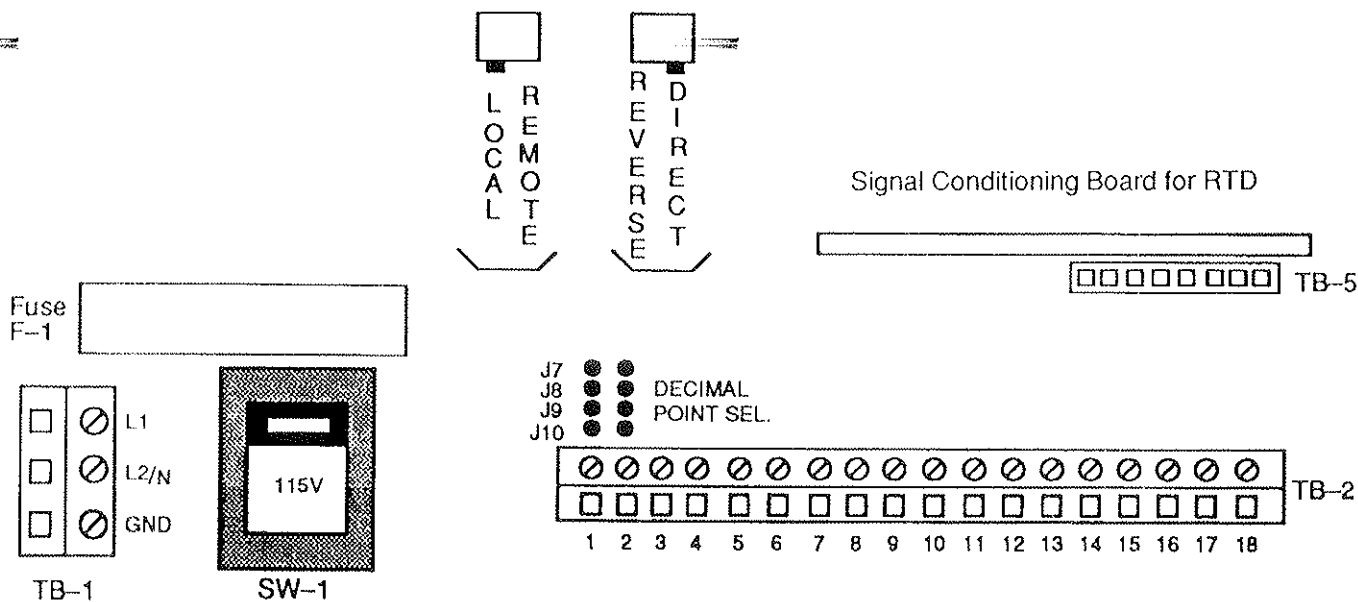

FIGURE 8
14. Power and signal lines should be routed through separate conduits to avoid interference. Set the 120/240 voltage switch (SW1) to match the supply voltage. Do not turn on A.C. power yet. With AC power circuit breaker OFF, connect power leads (unpowered) to TB-1 (Figure 8). Connect the black wire to terminal 1, the white wire to terminal 2 and the green or green/yellow earth ground wire to terminal 3 of TB-1. If the EPC is powered by 24V DC, connect the positive connection to terminal 6 and the negative connection to terminal 7 of TB-2 and DO NOT connect any wires to TB-1. (See Figure 9.)
3. Set the direct/reverse switch (SW3) to the proper position. (See Figure 8). When set on direct, the air output will increase when the signal from the transmitter increases and vice versa.
4. If a remote set point signal (4-20 mA) is being used, move the remote/local switch (SW2) to the remote position. (See Figure 8). Otherwise, put it in the local position. (At local position of SW2, set point is controlled by the set point control knob located on the panel.
7. Connect the appropriate jumper, as shown in Figure 8 to locate the decimal point for maximum resolution of the display in relation to the input transmitter. (The EPC is shipped with jumper at J9). Following table shows the range of the display at each jumper position. Replace the field wiring cover.
The 2-wire transmitter is connected to the EPC as shown in Figure 8. Terminal 1 supplies 24VDC power to the transmitter, and terminal 3 receives the 4-20mA signal back. Terminal 2 is an earth ground.